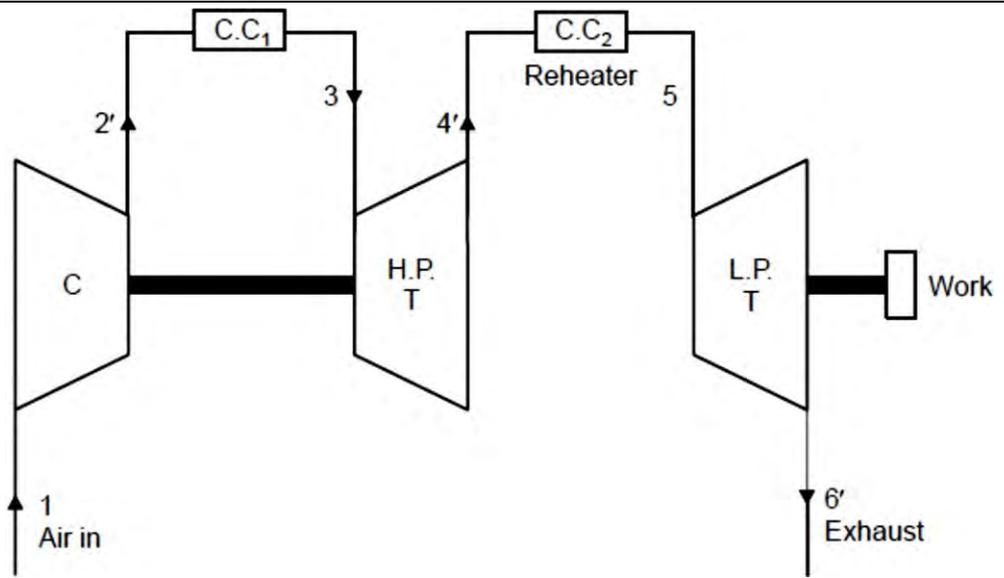

Fig. 7.16 Open cycle gas turbine plant with reheat
- The output of a gas turbine can be improved by expanding the gases in two stages with a reheater between the two as shown in Fig. 7.16.